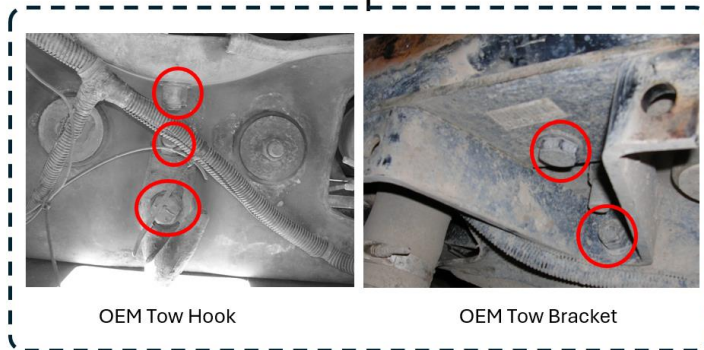

Figure 1c: OEM Tow Type
2. Identify your truck's OEM tow type, see Figure 1c. Whether your truck has an OEM tow hook or tow bracket, remove it by removing the corresponding circled hardware. Retain the removed hardware for later use.